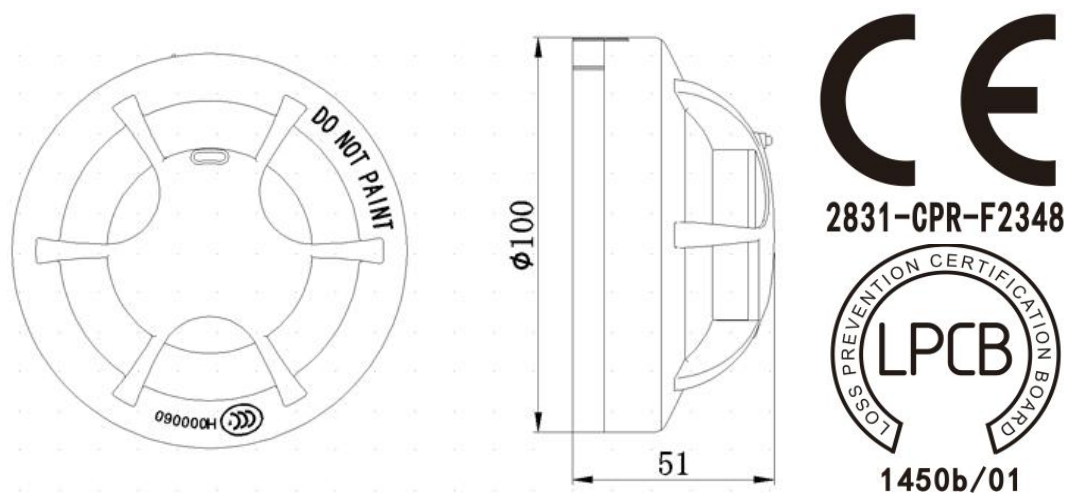

Fig.1
1. Appearance of the detector is shown in Fig. 1.